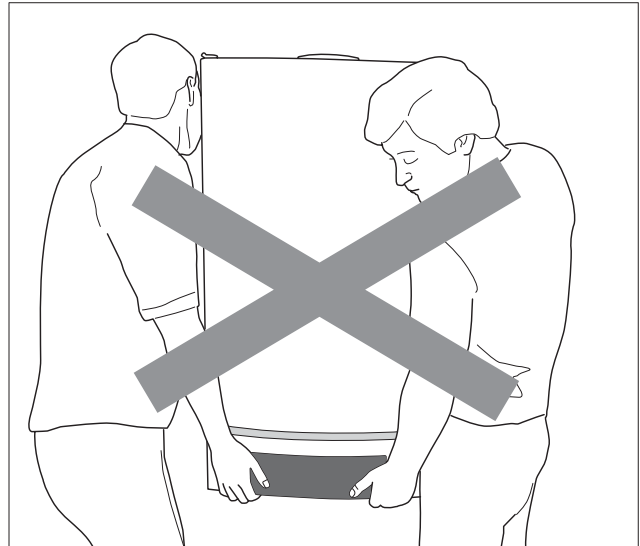

fig. 3 Incorrect way of lifting and carrying the boiler
- Do not hold the boiler by the door over the control panel (fig. 3) to lift and carry it.